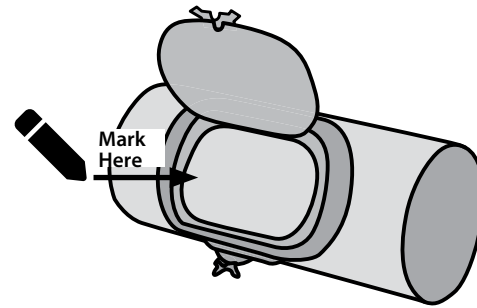

FIG. 20a
- Lay it on your pipe, open the Clean Out, and trace the inner oval shape onto your pipe [FIG. 20a].